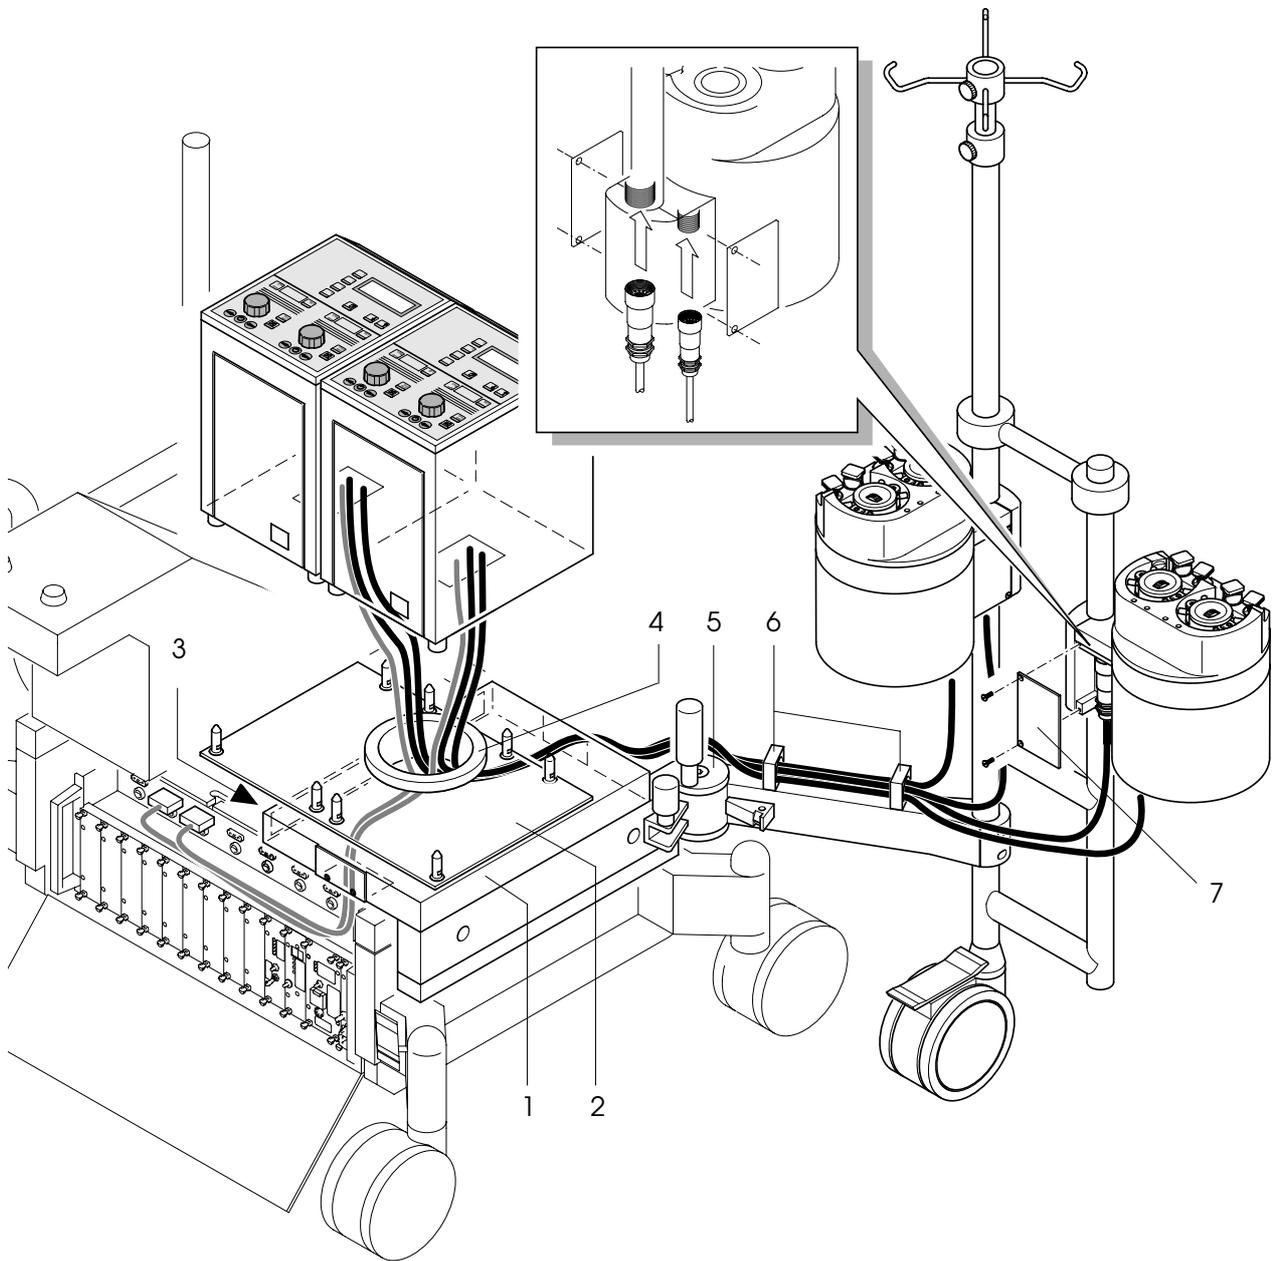

Fig. 17 Double Head Pump, mast-mounted: Running of connecting cables
- Run cables of the control and operation units through swivel joint(4) into cable box(1).
- Run cables through the openings in cable box(1) to the pumps and to E/P pack as shown in Fig. 17.
- One connecting cable to the E/P pack (pump plug).Through the access opening(3) the cables inside the cable box(1) can be rearranged and distributed to the openings.
- Run each pair of cables (with circular connectors) neatly around the swivel joint(5) and through the cable retaining holders(6) on the swivel arm to the corresponding pump housing.
- Remove cover plates(7) from both sides of the mounting block and connect cables to their sockets.